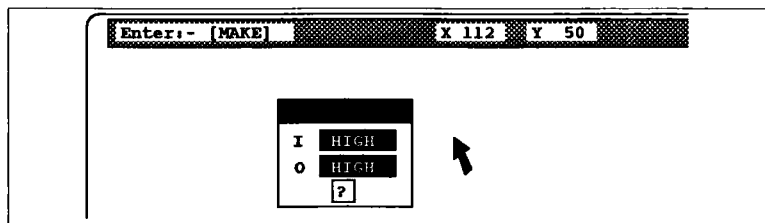

Figure 4.6 *DGMAN\_ST Faceplate Symbol*
- **DGMAN\_ST** lets you place a Digital Manual Station block faceplate symbol, shown in Figure 4.6. This simple runtime ENTERable faceplate displays the states of the linked DGMS block’s Input (I) and Output (O) with messages that you can configure via QUERY. It also shows the Mode of the block.